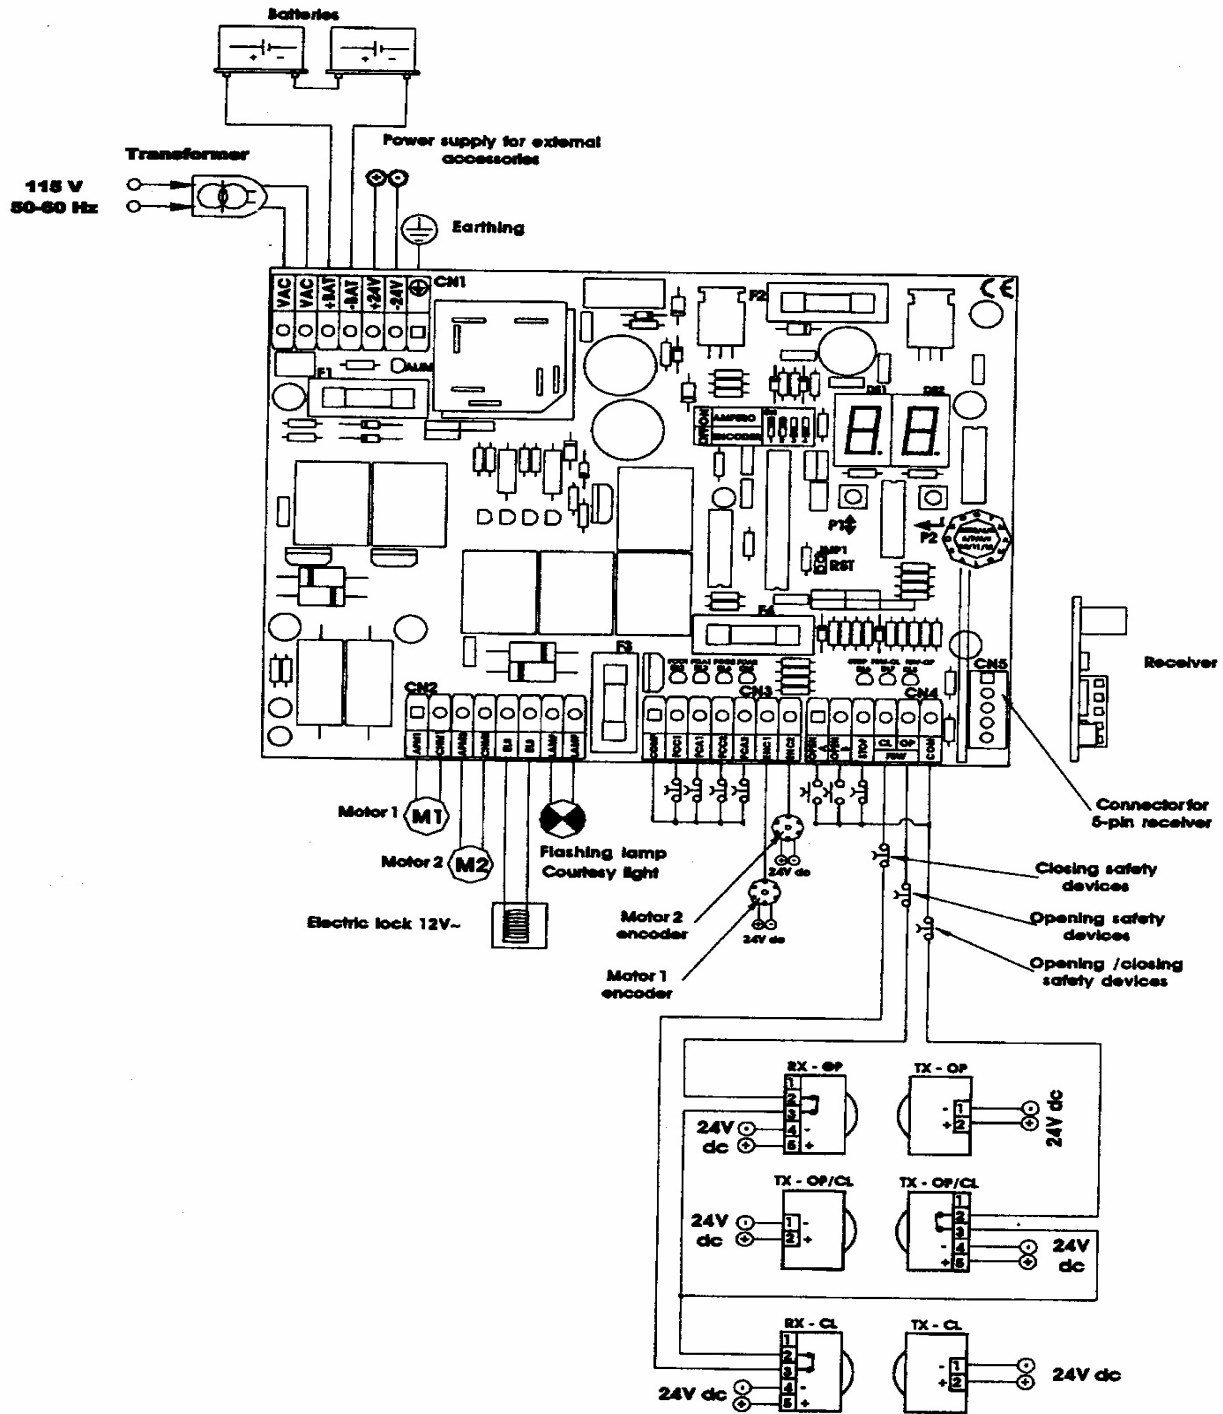

Figure 14. The 425D layout and wiring diagram
5. If either gate moves toward the open position, touch the two RESET (JMP1) pins, (see figure 14) with a small screwdriver or piece of wire. This will cause the gates to stop.